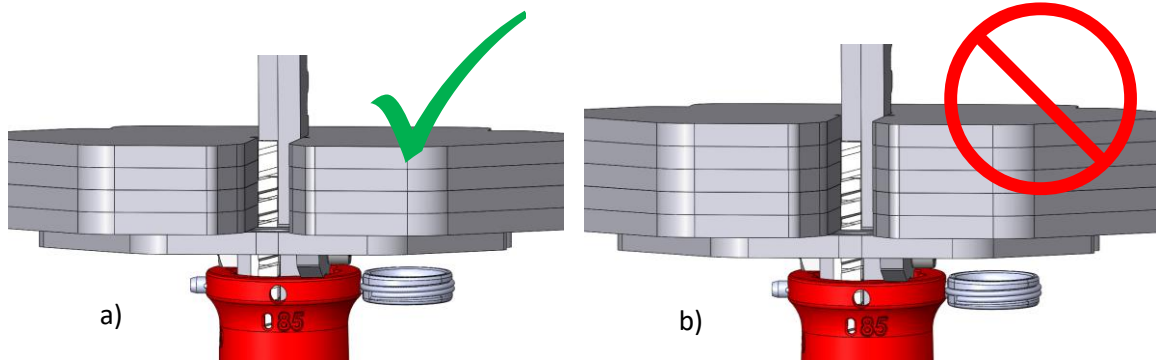

Figure 2: a) All plates are locked to the bar by the slider.
- b. When removing the dumbbell from the base, a slider is not positioned as shown in Figure 2 a), or any plate is not locked to the bar by the slider as shown in Figure 2 b). Refer to the section titled “Troubleshooting - Plates sticking to bar”.
5. Check to ensure each plate is locked to the bar by a slider. Refer to the “Safety” section and Figure 2.